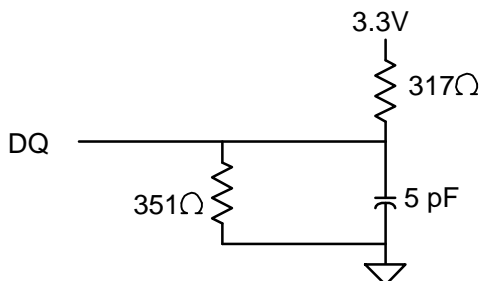

Fig.2 OUTPUT LOAD EQUIVALENT
6. Output loading is specified with $C_L = 5\text{ pF}$ as in Fig. 2.